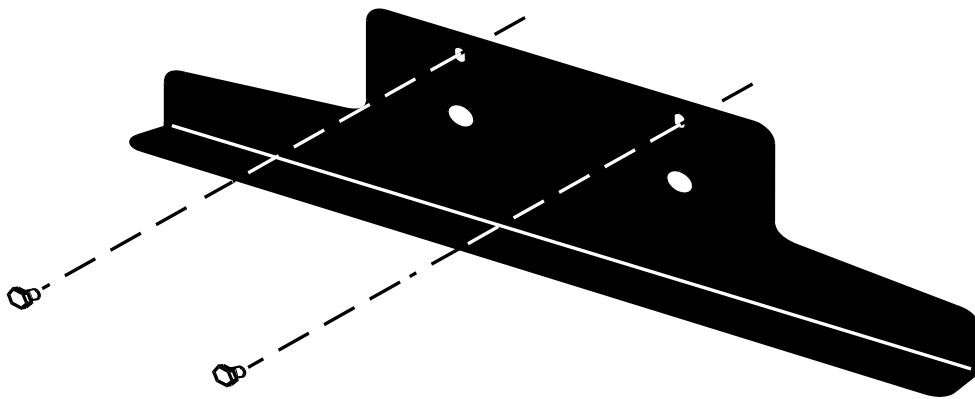

Figure 14
3. Use the bolts to secure the brackets to the UPS (see Figure 14).